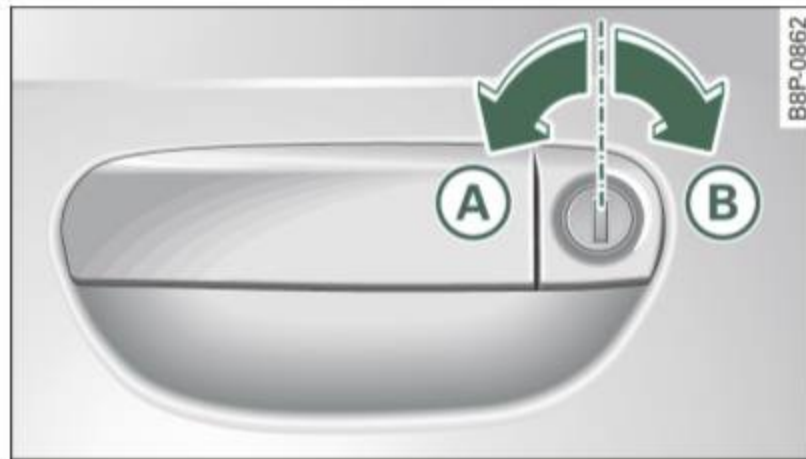

Fig. 47 Key turns for opening and closing.
- Turn the key to position **A** ⇒ fig. 47 to unlock the vehicle